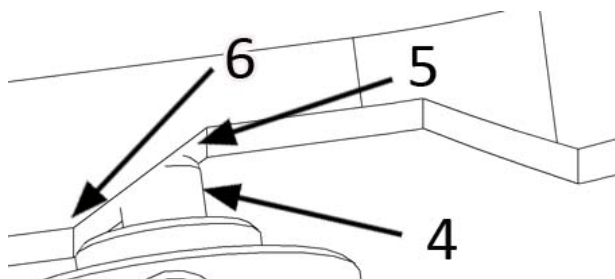

Fig. 32
Correct movement and size of opening of plates is set by position of rod (2) when the control pin of main tensioner (4), Fig. 32 is in touch of stagnation area of rod (2). We are oriented by distance from the edge (6) of stagnation area (5) with adjustment of point of touch of pin (4). This point of touch affects the size of opening of plates.